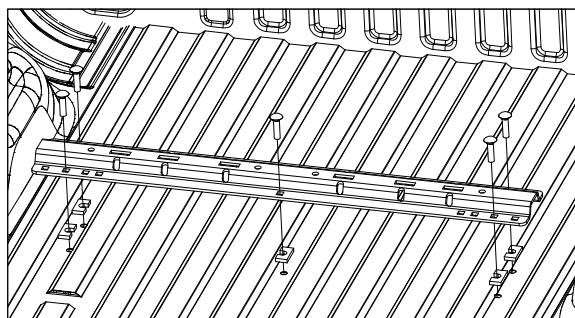

Figure D1: View looking into truck bed from rear of truck.
- 1. Install the rear mounting rail.** Reposition the rear mounting rail over the drilled 9/16" holes in the bed. Install a 1/2" X 2" carriage bolt through the mounting rail into each of the five drilled holes, as shown in Figure D1.